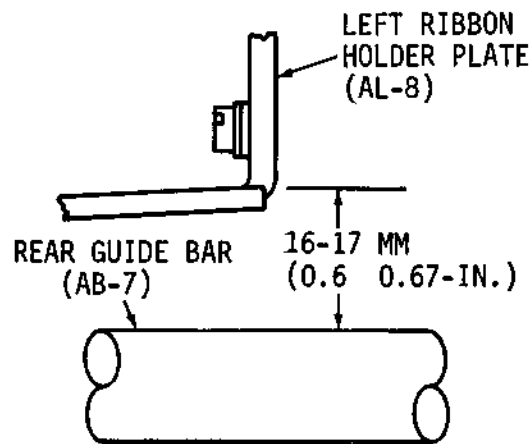

Figure 5-15. LOCATING DIMENSION FOR LEFT RIBBON HOLDER PLATE WITH RESPECT TO REAR GUIDE BAR
a. Left Ribbon Holder Plate (AL-8) (Fig. 5-15)
- (1) Maintain parallelism of plate with respect to printer base and apply distance of 16-17 mm (0.6-0.67-in.) between top of plate and top of rear guide bar (AB-7). See Figure 5-15.
- (2) Tighten mounting screws, washers (AL-52, 53, 51) of bracket when parallelism and correct distance has been attained.